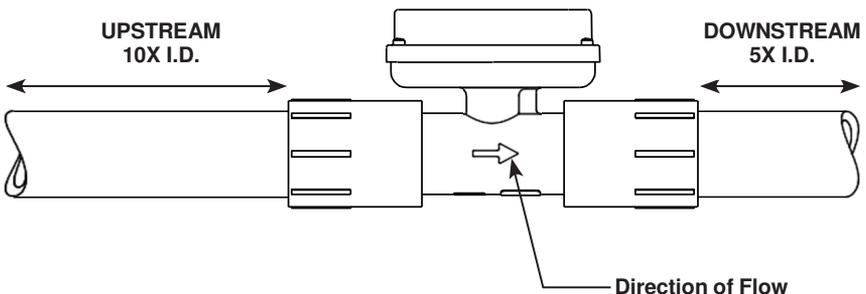

Figure 2
1. Plan to install turbine with a minimum straight pipe length as follows(see Figure 2):
- Upstream from the turbine, allow a minimum straight pipe length of (10) times the internal diameter of the turbine.
- Downstream from the turbine, allow a minimum straight pipe length of (5) times the internal diameter of the turbine.